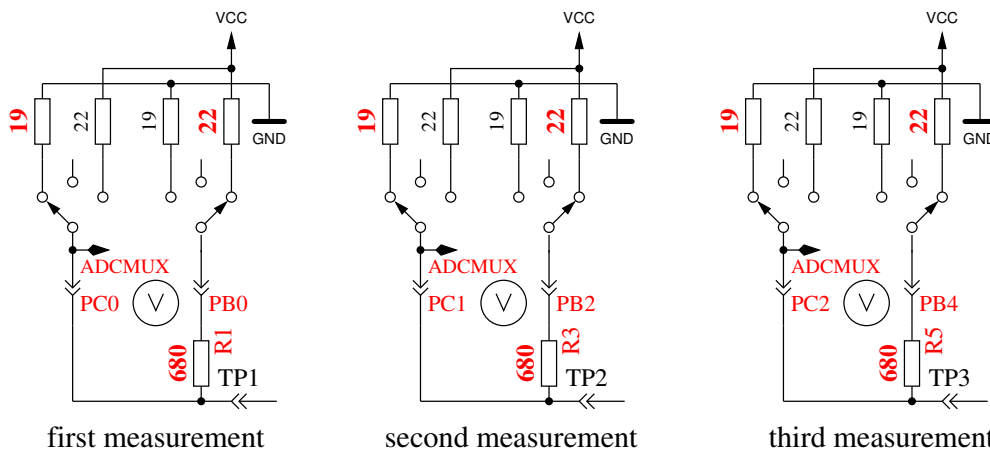

Figure 5.45: Measurement of internal resistance of Port C switched to GND
5. **This step tests the capability of GND (-) connected 470kΩ resistors (H) to pull the test pins to GND.** Row 1 shows the text “RH-”. Row 2 should display zero for all three pins.
6. **This step tests the capability of VCC (+) connected 470kΩ resistors (H) to pull the test pins to VCC (+).** Row 1 shows the text “RH+”. The results are shown als difference to VCC and should be near zero. Great differences from the best value for test 5 and 6 are errors such as isolation problem, flux material or damaged port.
7. **Measuring of internal resistance of pin output switched to the GND signal.** This test and the follwing tests will only be done, if the option AUTO_CAL is selected. The internal resistance of the port C outputs switched to GND (-) are measured with the current of to VCC (+) switched 680Ω resistors, see Figure 5.45. Only the three pins of the ADC port are measured, the resistor port B (PB0,PB2 and PB4) can not be measured without hardware modification. Is is assumed that the port resistance of the different ports are nearly identical. The resistor value will be shown in the next test.